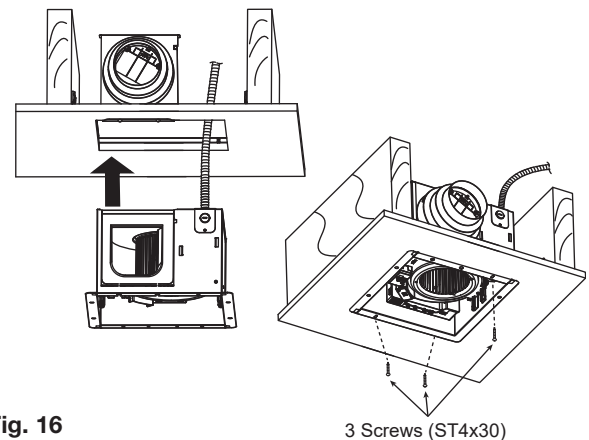

Fig. 16
4. Push the fan body upwards until the mounting flange is flush with the joint and secure by using the other 3 self-tapping screws (ST4X30). See Fig. 16